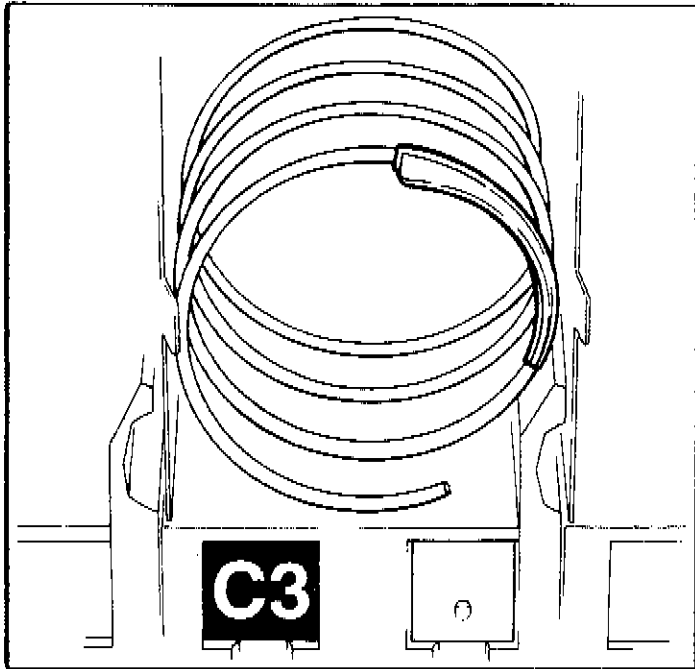

Figure 5. LOCATION OF PRODUCT PUSHER ON SPIRAL.
7. **PRODUCT PUSHER:** The machine contains enough pushers for you to install a pusher on each candy spiral. This plastic part is designed to push the top of the product forward while it is vending, helping it fall from the shelf. It can also be used with products that have the wrapper end flap on the outside of the package. In this case, the pusher prevents these products from hanging on the spiral by spreading the flap. The pusher is installed approximately 210 degrees from the front end of the spiral with the tab extending forward (see Figure 5). Locate the pusher in its proper position, holding it against the spiral wire and push the semi-circular part around the spiral wire. Note: Not every selection spiral will need a product pusher. (Example — Box Items).